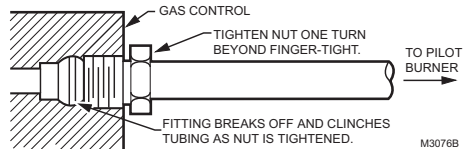

Fig. 6. Always use new compression fitting
4. Push tubing into the pilot gas tapping on the outlet end of the control until it bottoms. While holding tubing all the way in, slide compression fitting into place, engage threads and turn until finger tight. Then tighten one more turn with wrench. Do not overtighten. Refer to Fig. 6.